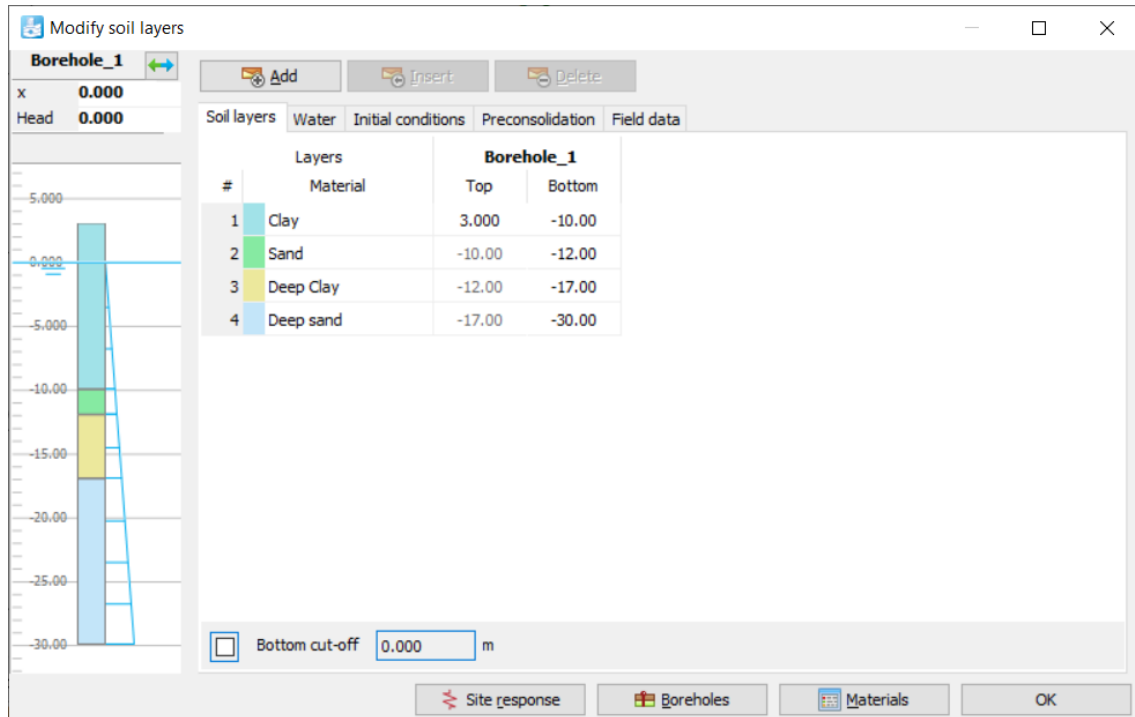

Figure 58: The soil stratigraphy in the **Modify soil layers** window
2. Create the soil stratigraphy as shown in Figure 58 (on page 75).